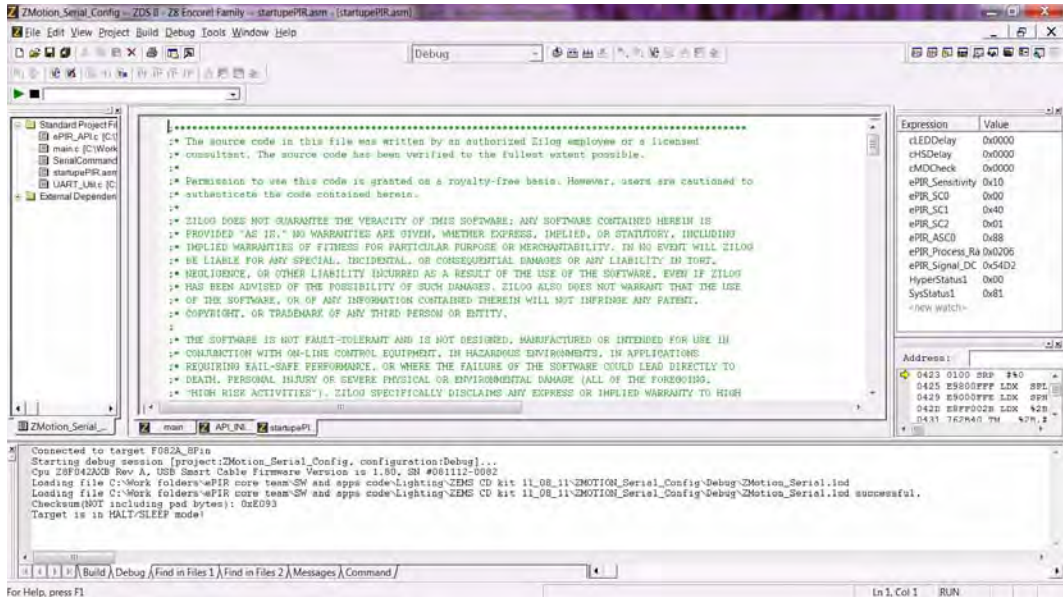

Figure 15. ZDSII’s Debug Output Window for the ZMOTION_Serial_Config Project
7. An information notice may appear, indicating that the silicon is not the latest version. This occurrence is normal and is not an issue. Click **OK** to continue. You should see a message in the Debug Output Window indicating that the load was successful, as shown in Figure 15.